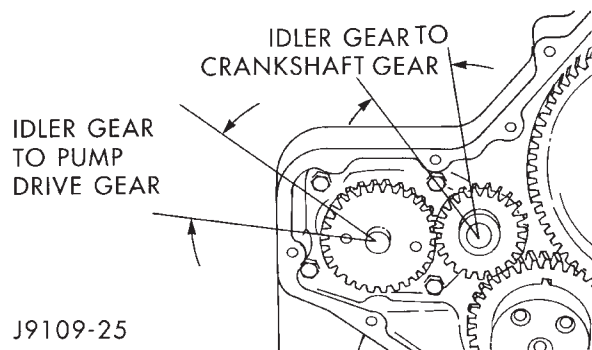

Fig. 101 Idler Gear to Pump Drive Gear and Crankshaft Gear Backlash
(3) The back plate on the pump seats against the bottom of the bore in the cylinder block. When the pump is correctly installed, the flange on the pump will not touch the cylinder block.
(4) Measure the idler gear to pump drive gear backlash and the idler gear to crankshaft gear backlash (Fig. 101). The backlash should be 0.080- 0.330 mm (0.003-0.013 inch). If the backlash is out of limits, replace the oil pump drive gear and the idler gear.
(5) If the adjoining gear moves when you measure the backlash, the reading will be incorrect.